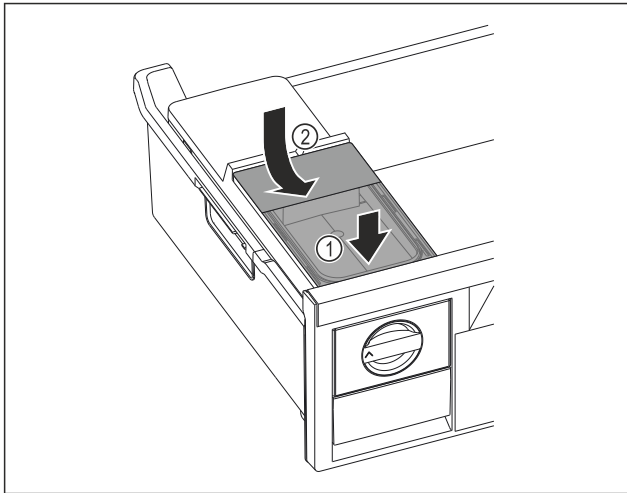

Fig. 82
- ▶ Position the water tank at the front. Fig. 82 (1)
- ▶ Lower the water tank at the rear. Fig. 82 (2)